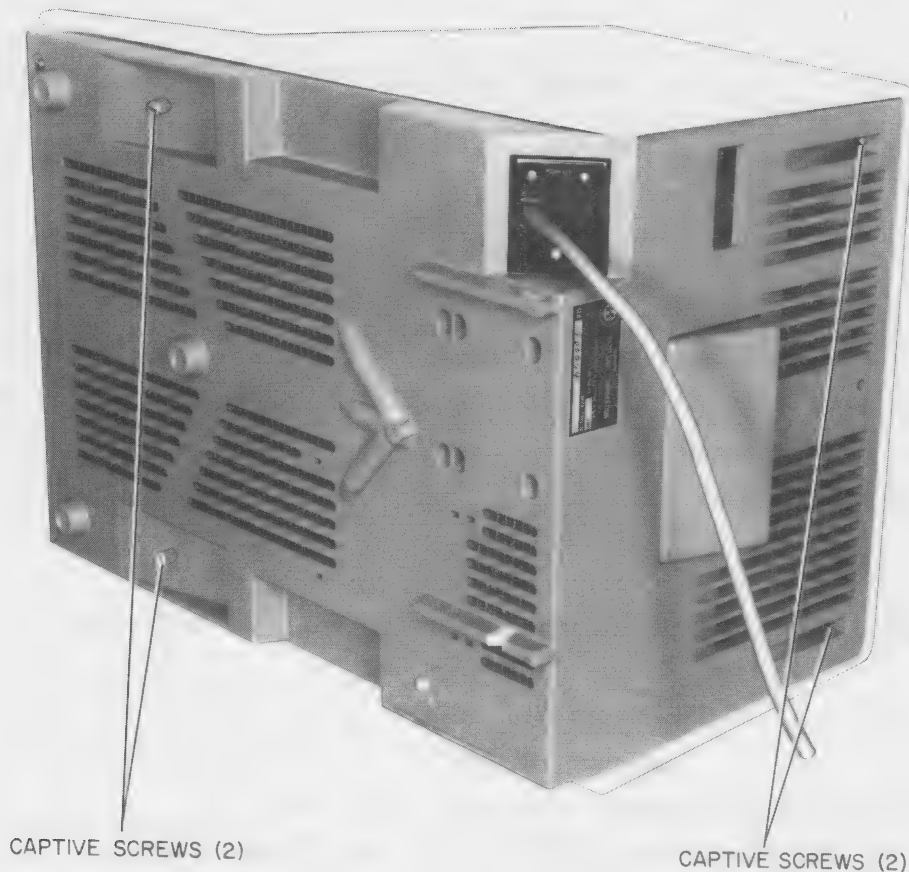

Figure 6-1. 1400 Terminal, Rear and Bottom View
- b. Lay the terminal on its side and loosen two captive screws in the base (figure 6-1).